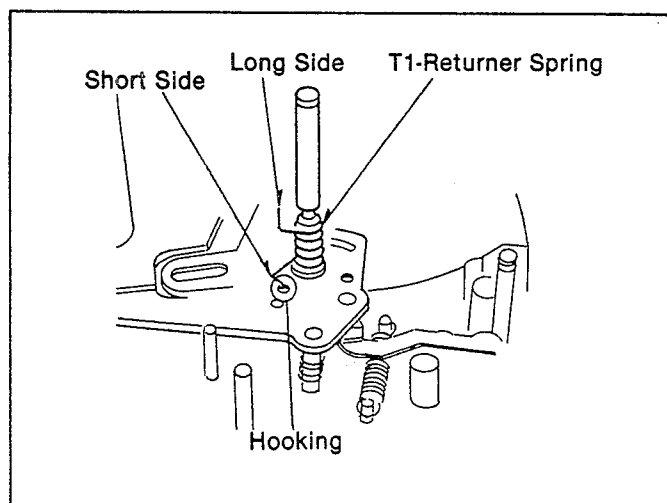

Fig. M22
- (4). Insert the T1-returner Spring so that insert a hooked end(short side) in the hole of the Pinch Arm Base as shown in Fig.M22.